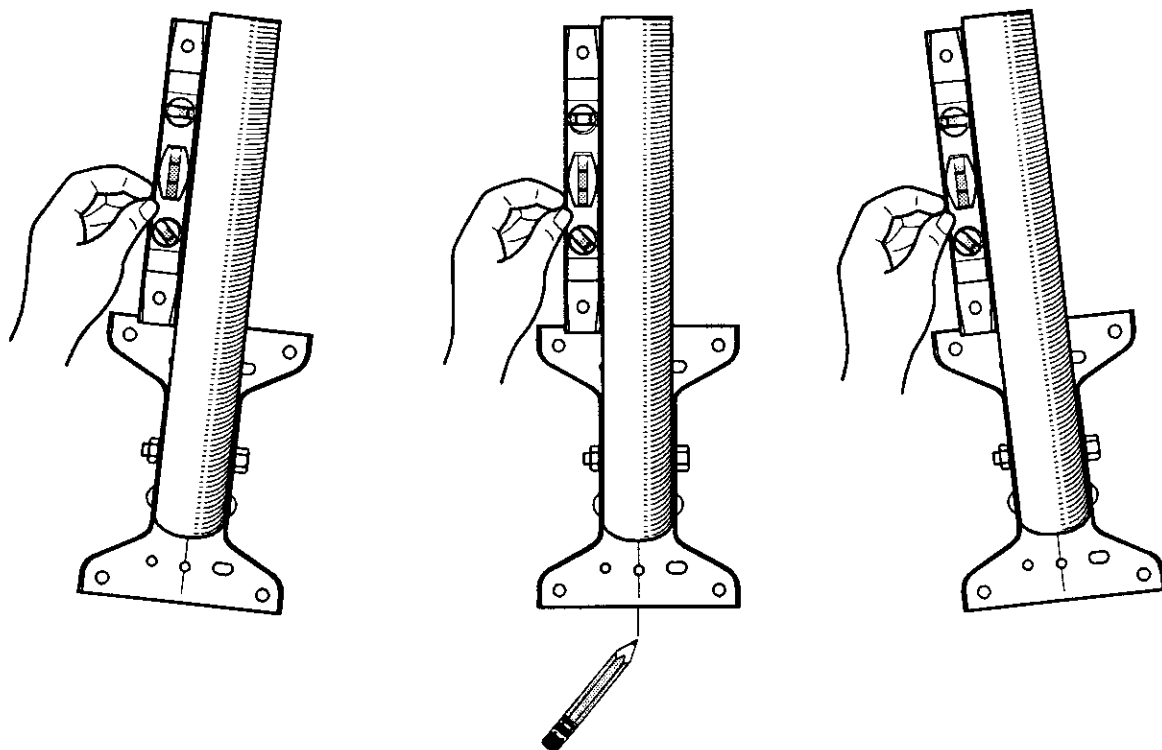

Figure 22, Horizontal Leveling with Bubble Level
1. Place the level on the mast as shown in figure 22. Move the bottom of the mounting foot to center the bubble in the window of the level.